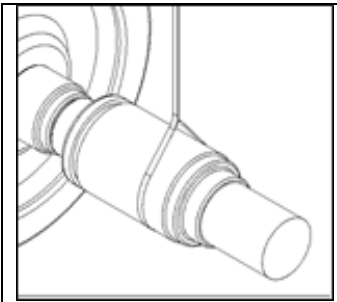

Figure 21 – Guide Tube Installation
- 5.3.4 Slip the bearing assembly on the Guide Tube. The seal wear ring should be held in place to prevent it from riding out of the enclosure seal when the cardboard tube is ejected. A small lift is recommended for handling the large bearing assembly sizes (Figure 21).